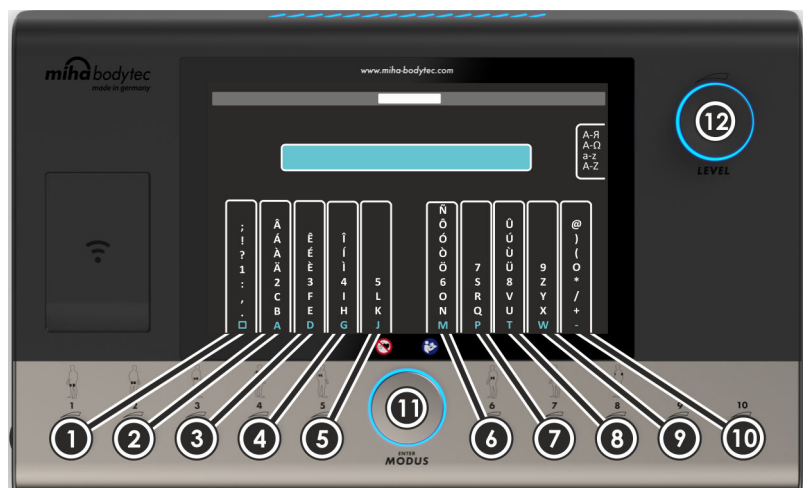

Fig. 29: Entering text
When you select these text boxes with the multi-function button (Fig. 29/11), you have the following input options:
- When you turn the main controller (Fig. 29/12), you can switch between individual typefaces and upper- and lowercase letters.
- When you press the main controller briefly (Fig. 29/12), the last letter in the text box is deleted. When you keep it depressed, the entire text box is deleted.
- When you turn the individual level controller (Fig. 29/1 – 10) (channels 1 – 10), the letters are selected. When you press the respective controllers, they are adopted into the text box.
- When you press the multi-function button (Fig. 29/11), the entered text is adopted.